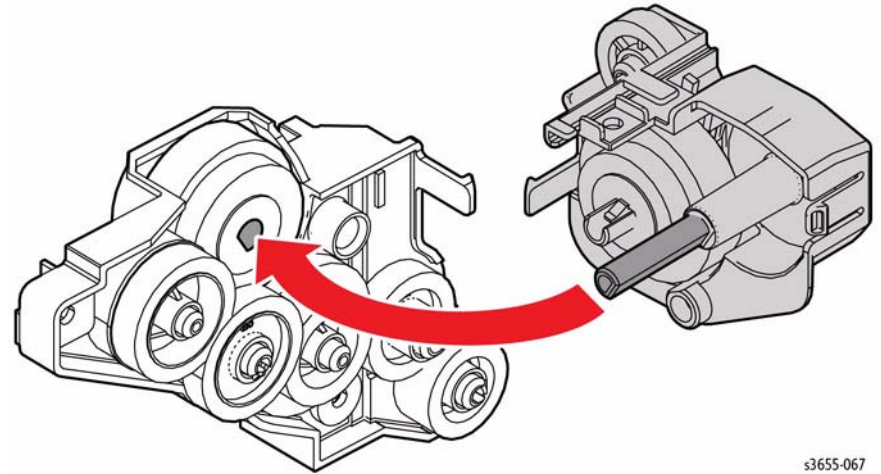

**Figure 4 Remove the Exit Invert Drive Assembly**
18. Refer to Figure 4 to locate and remove 1 screw (silver, tapping, 8mm) and 2 hooks that secure the Exit Invert Drive Assembly.